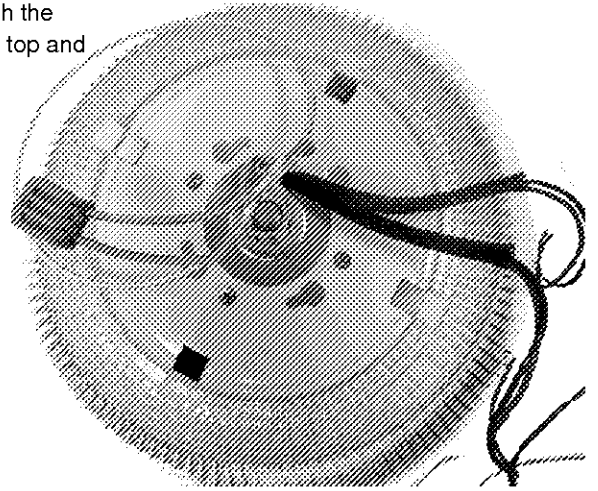

Figure 3
5. Tighten the threaded rod/LED Engine assembly to the top of the reflector with the Hex Nuts and Washer, using a ½ inch wrench. Thread the wires through the top and attach the ground wire. See Figure 3